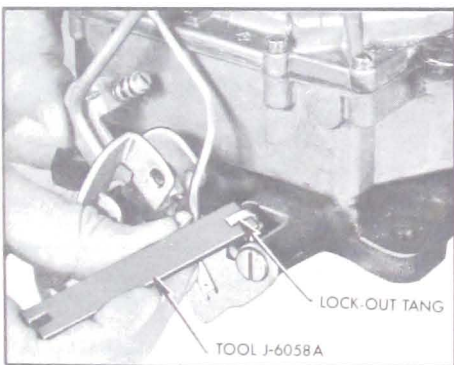

Figure 3-76—Adjusting Secondary Lock-Out
6. If clearance between tang and lock-out step is not correct, bend tang as required to obtain this clearance using Tool J-6058A. See Figure 3-76.